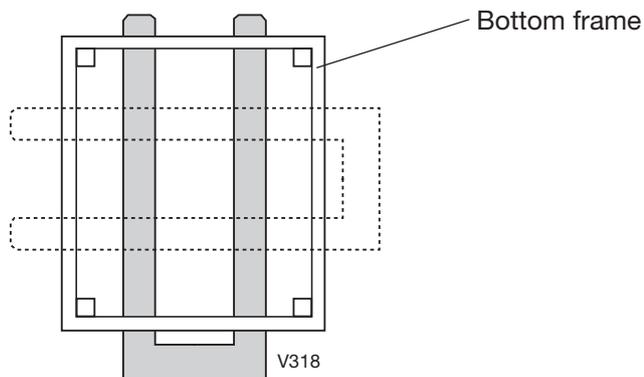

Figure 2. Positioning the pallet truck forks.
- position the pallet truck forks as shown in Figure 2 so as not to damage the machine.